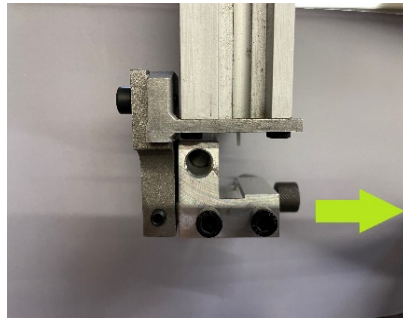

Figure 9
- Unscrew the two fixing screws and remove the blade guide from the axis. (Fig 9)